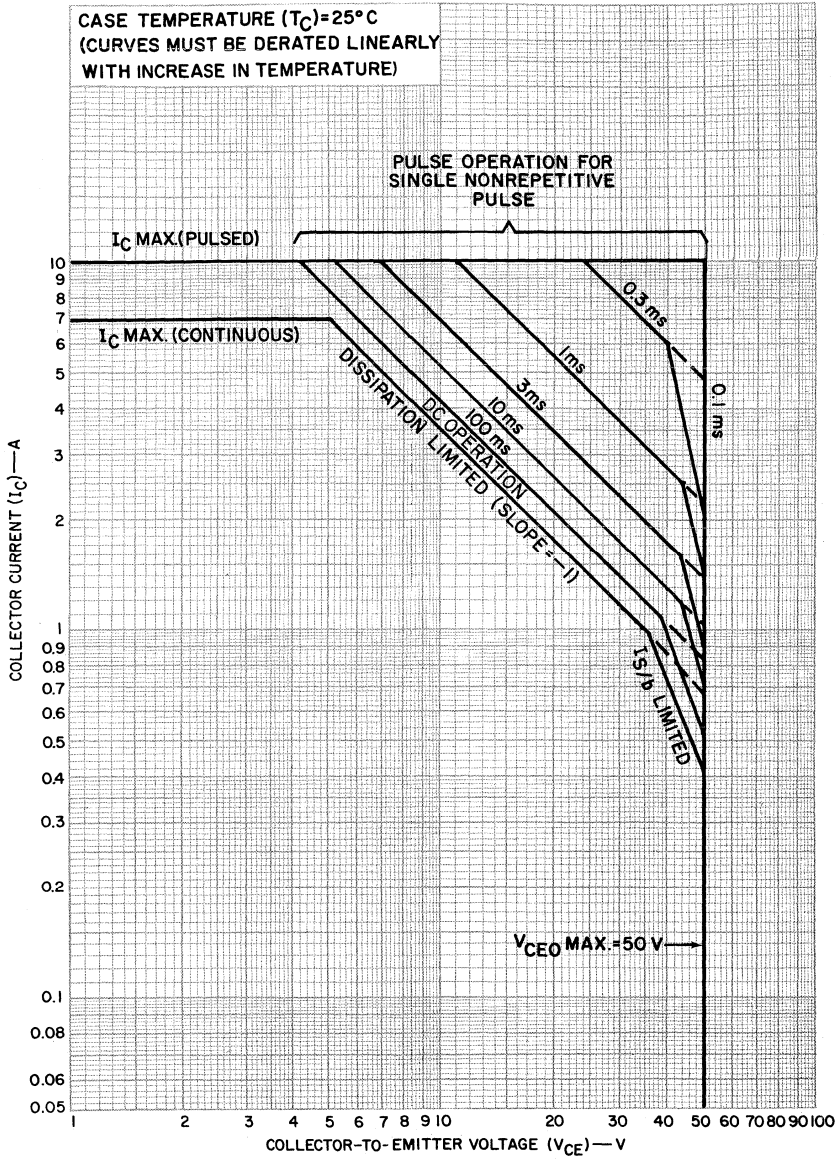

Fig. 5
is defined by four straight lines on a log-log plot of  $V_{CE}$  vs  $I_C$ . As shown in *Fig. 5* and *6* a horizontal line defines the maximum current, a line with a slope of  $-1$  defines the maximum power dissipation allowable; a line with a slope greater than  $-1$  defines the forward-bias second breakdown limit; finally, a vertical line indicates the maximum voltage rating of the device.
As can be seen in *Fig. 5* and *6* these transistors are free from second breakdown out to 36 V, 28 V, and 23 V for 2N3878, 2N3879, and 2N5202, respectively. Out to these points, the boundary is made up of the maximum current and maximum power curves. Then, the second breakdown effect becomes the controlling factor. This curve is made up of a line having a slope greater than  $-1$ .
- (1) For a specified pulse width and collector-to-emitter voltage,  $V_{CE}$ , determine (from either *Fig. 5* or *6*) the maximum collector current at 25°C, using the curve marked "DISSIPATION LIMITED" (or its dashed-line extension).